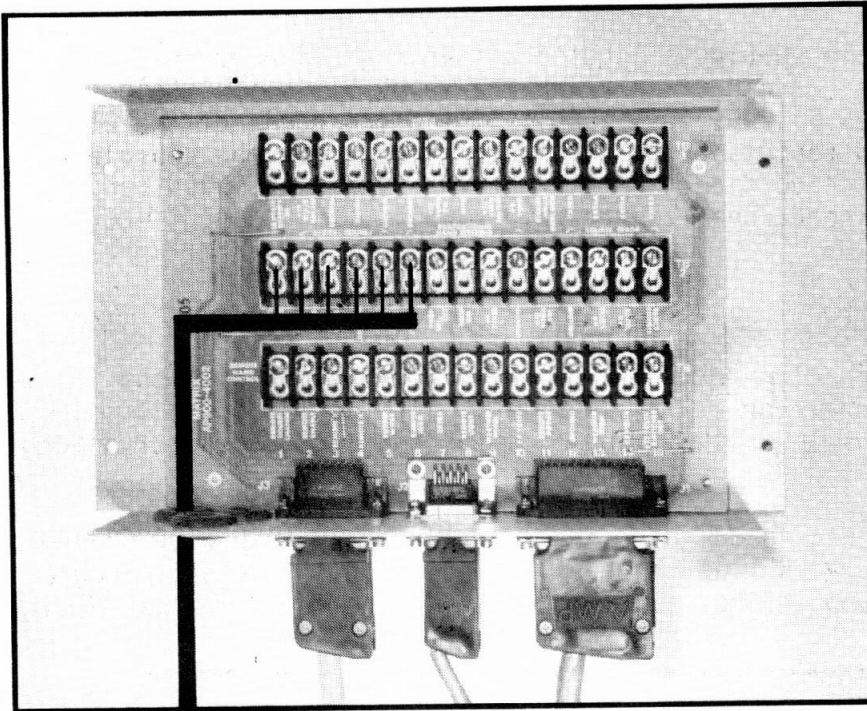

FIGURE 47. WIRING DIGITAL COMPASS INTO MATRIX
- Referring to Figure 47, wire the cable into the Matrix. Follow the General Wiring Instructions on page 16, Section 2.1. Replace Matrix cover.